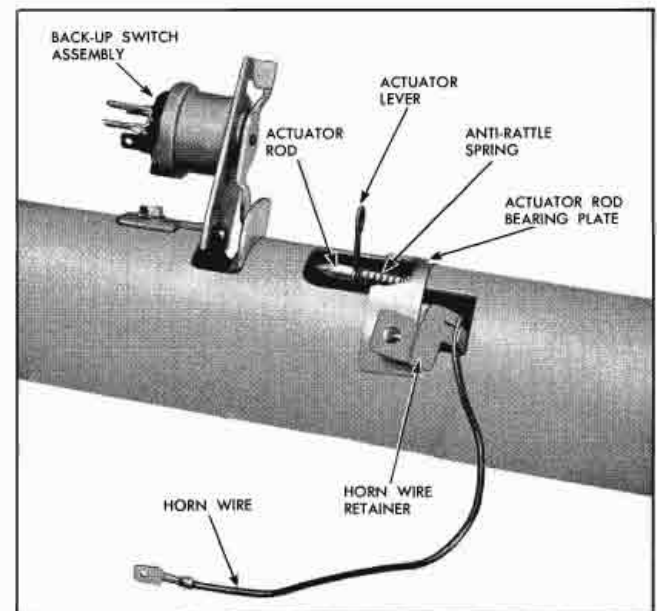

Fig. 7-26 Actuator Assembly and Back-Up Switch
21. Pull end of horn wire out appropriate opening in steering column (Fig. 7-26).
23. Install actuator rod bearing plate, direction signal switch and horn wire retainer in appropriate position on housing (Fig. 7-26).